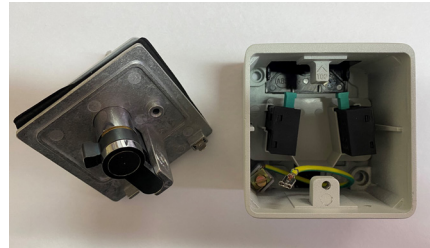

fig.1
- 1** To open the key switch remove screw from front then rotate key a quarter turn and pull the front away to reveal the wiring underneath (fig.1).